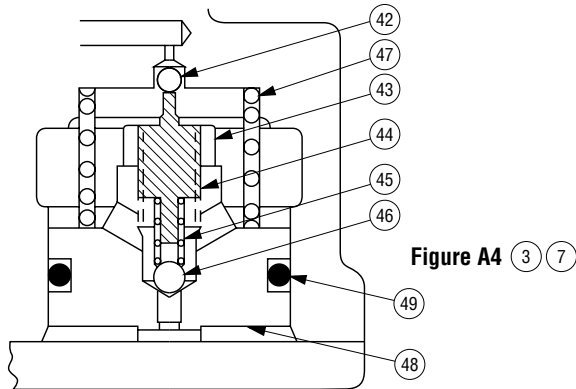

Figure A4 (3) (7)
Low-pressure relief valve is dirty or is set incorrectly.	To clean and adjust this valve, see Low-Pressure Relief Setting, Figure A4 in the Repairs section of this manual.
Low-pressure relief valve is set too low.	See Low-Pressure Relief Setting, Figure A4 in the Repairs section of this manual.
See Low-Pressure Relief Setting, Figure A4 in the Repairs section of this manual. Clean and inspect items 42-49. Replace parts as necessary.
Refer to Figure A4. Lightly bottom the stem (44) on the ball (46). Then, back out the stem 3-1/2 turns. Tighten nut (43). The resulting pressure setting should be approximately 19 bar (280 psi).